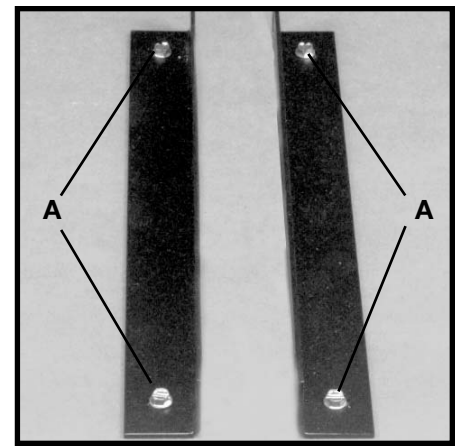

Fig. 60
3. Assemble table leg support brackets (A) Fig. 60, at the locations drilled in STEP 1, to the table board using four #8 x 7/8 inch-long wood screws supplied. **NOTE:** The sides of table supports (A) Fig. 60, with narrow slots, should be against the table. **CAUTION: DO NOT OVER-TIGHTEN MOUNTING SCREWS.** Over-tightening screws in particle board may cause them to strip.